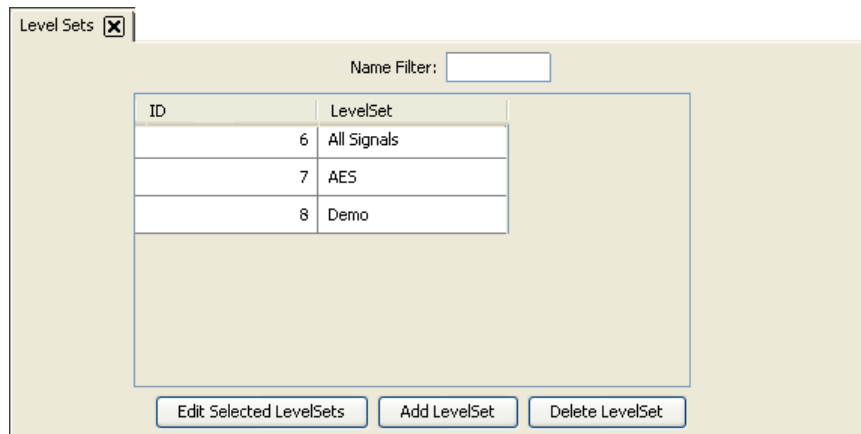

Figure 8-10. Level Sets Page
- 1 From the Navigation area, select the 'Configuration' pane and then 'Level Sets'. The 'Level Sets' page appears, as shown in Figure 8-10.